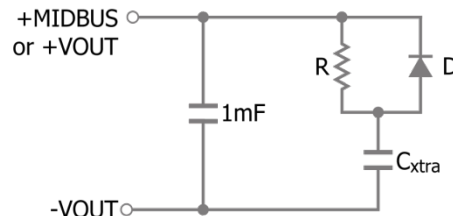

Figure 19: Series R || D network for capacitance at +MIDBUS or +VOUT in excess of 1 mF
- 3) +MIDBUS should *not* be connected directly in parallel between units. It is acceptable to share a single +MIDBUS holdup capacitor between multiple units by connecting multiple R||D elements (from Figure 19) in a star configuration, but doing so will defeat any common mode filtering in individual input filters. The recommended value of +MIDBUS capacitance should be placed locally at each unit.
+VOUT in regulation as seen in Figure 18. Capacitor must be rated to  $\geq 450$  V. For capacitance above 1 mF, use R||D network as shown in Figure 19.
Figure 17: Minimum holdup capacitance required at +VOUT to ride through a 50 ms line interruption, allowing +VOUT to drop from 400 V nominal down to 320 V or 240 V. Capacitor must be rated to  $\geq 450$  V. For capacitance above 1 mF, use R||D network as shown in Figure 19.
Figure 18: Response to 50 ms line interruption; 60 Hz; 5.0 kW power drawn from +VOUT pin; 7.5 mF total capacitance placed at +MIDBUS with series R || D network as shown in Figure 19.
Capacitance in excess of the 1 mF maximum value requires an additional series R || D network for optimum stability, as shown in Figure 19. The diode must be rated for at least 600 V and a fast recovery type is recommended to improve forward recovery characteristics. The resistor must be adequately rated for pulse capability: a ceramic composition type is recommended.
For capacitors between 1 mF and 10 mF, the resistor value shown in Figure 19 should be 4.7  $\Omega$ . Capacitors larger than 10 mF may be used, but it is possible to trip the “+MIDBUS Under-Voltage Shutdown” protection if +MIDBUS does not reach 50 V within 150 ms after it begins to ramp up. Increasing